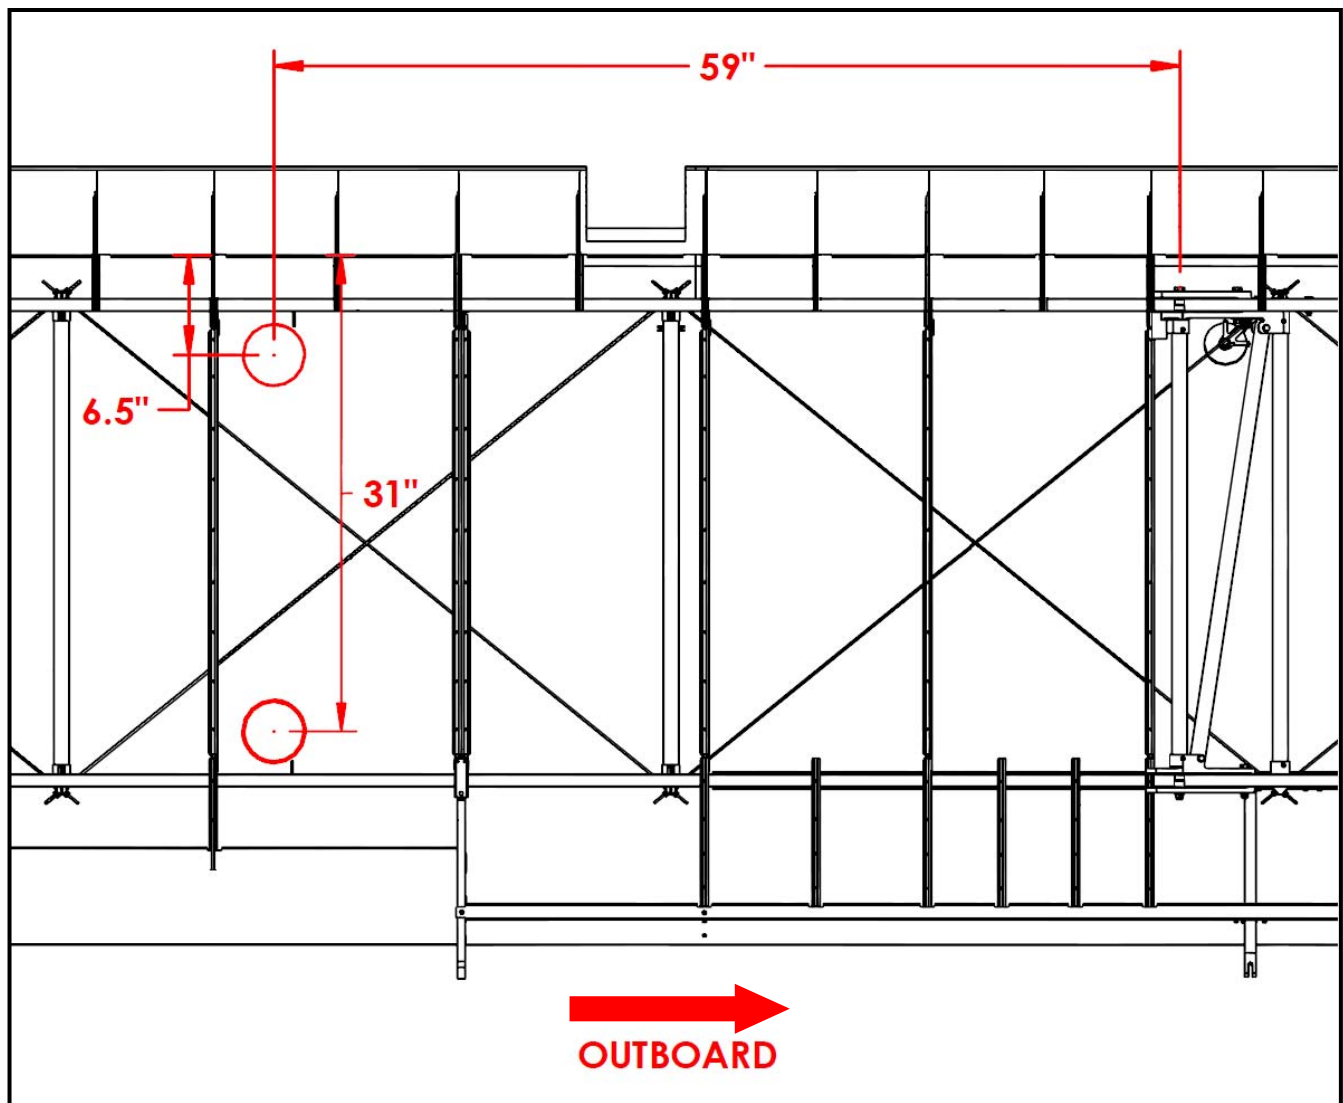

FIGURE 2 – Inspection Hole Location as Viewed from Below the Wing (FOR REFERENCE ONLY)
3. Measure 59" inches inboard from the center of the lift strut upper attach bolt and back 6.5" and 31" from lower trailing edge of the leading edge skin to center the fabric grommet (see Figure 2). Mark the center points.